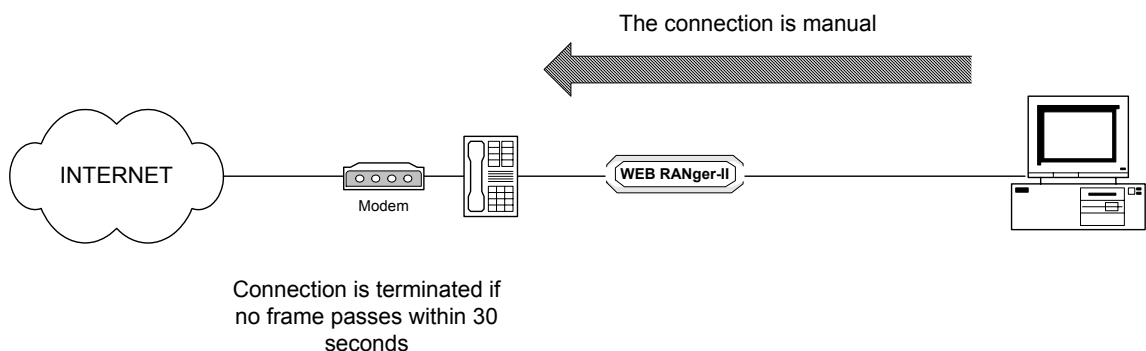

Figure 4-91. Manual Connection
- Set filter to *FTP only forwarded* (see Figure 4-91).